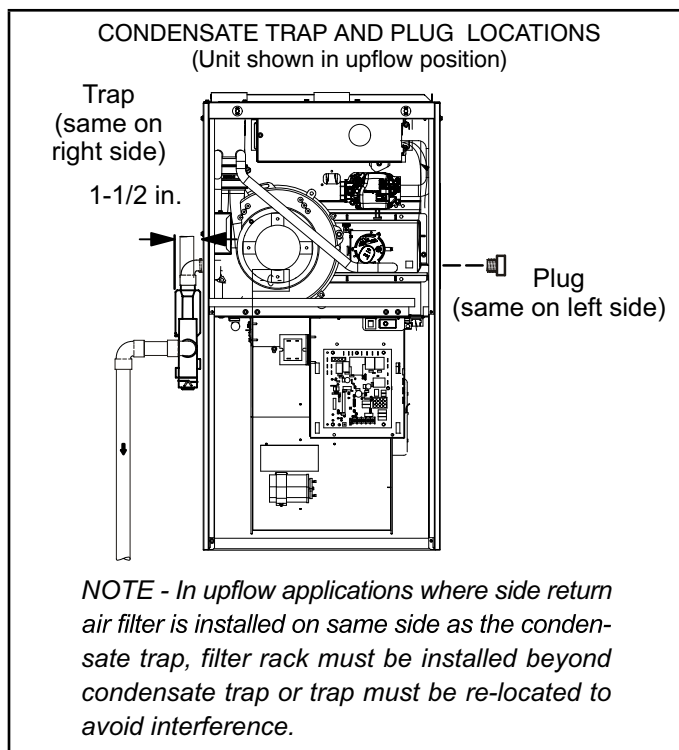
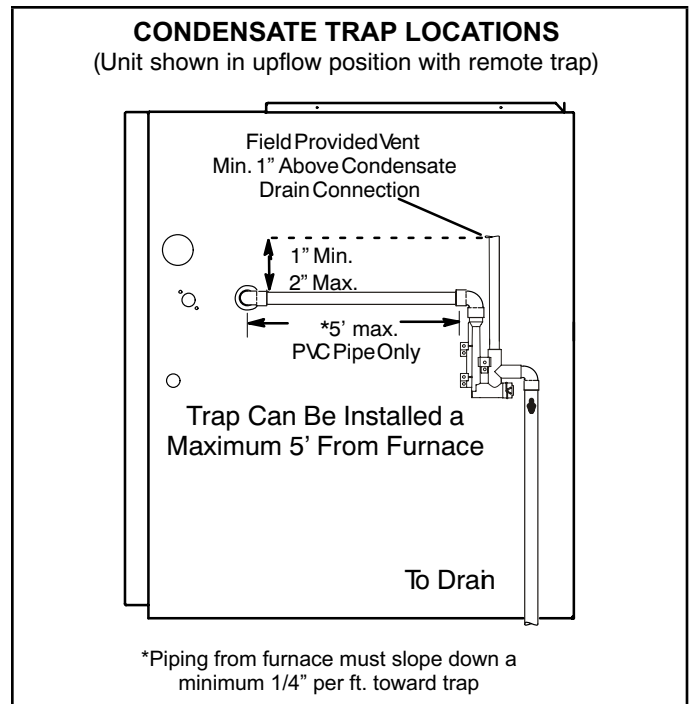
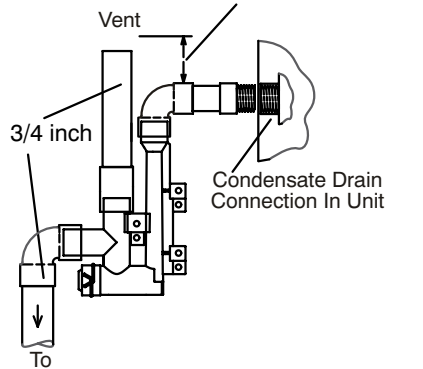

FIGURE 48
FIGURE 49
FIGURE 56
This unit is designed for either right- or left-side exit of condensate piping in upflow applications. In horizontal applications, the condensate trap must extend below the unit. An 8" service clearance is required for the condensate trap. Refer to FIGURE 48 and FIGURE 49 for condensate trap locations. FIGURE 56 shows trap assembly using 1/2" PVC or 3/4" PVC.
- 2 - Use a large flat head screw driver or a 1/2" drive socket extension and remove plug (FIGURE 48) from the cold end header box at the appropriate location on the side of the unit. Install provided 3/4 NPT street elbow fitting into cold end header box. Use Teflon tape or appropriate pipe dope.
- 4 - Install drain trap using appropriate PVC fittings, glue all joints. Glue the provided drain trap as shown in FIGURE 56. Route the condensate line to an open drain. Condensate line must maintain a 1/4" downward slope from the furnace to the drain.